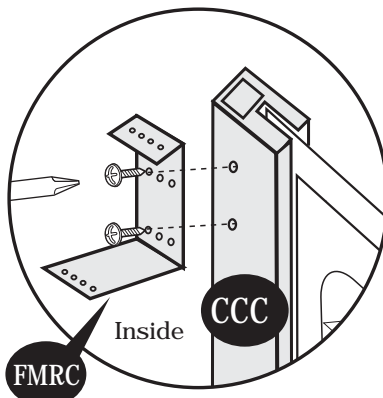

Fig.2
5. Fix the roof structure fitting (FMRC) to corner column (CCC) with (S1) screws through the left hole. See (Fig.2).